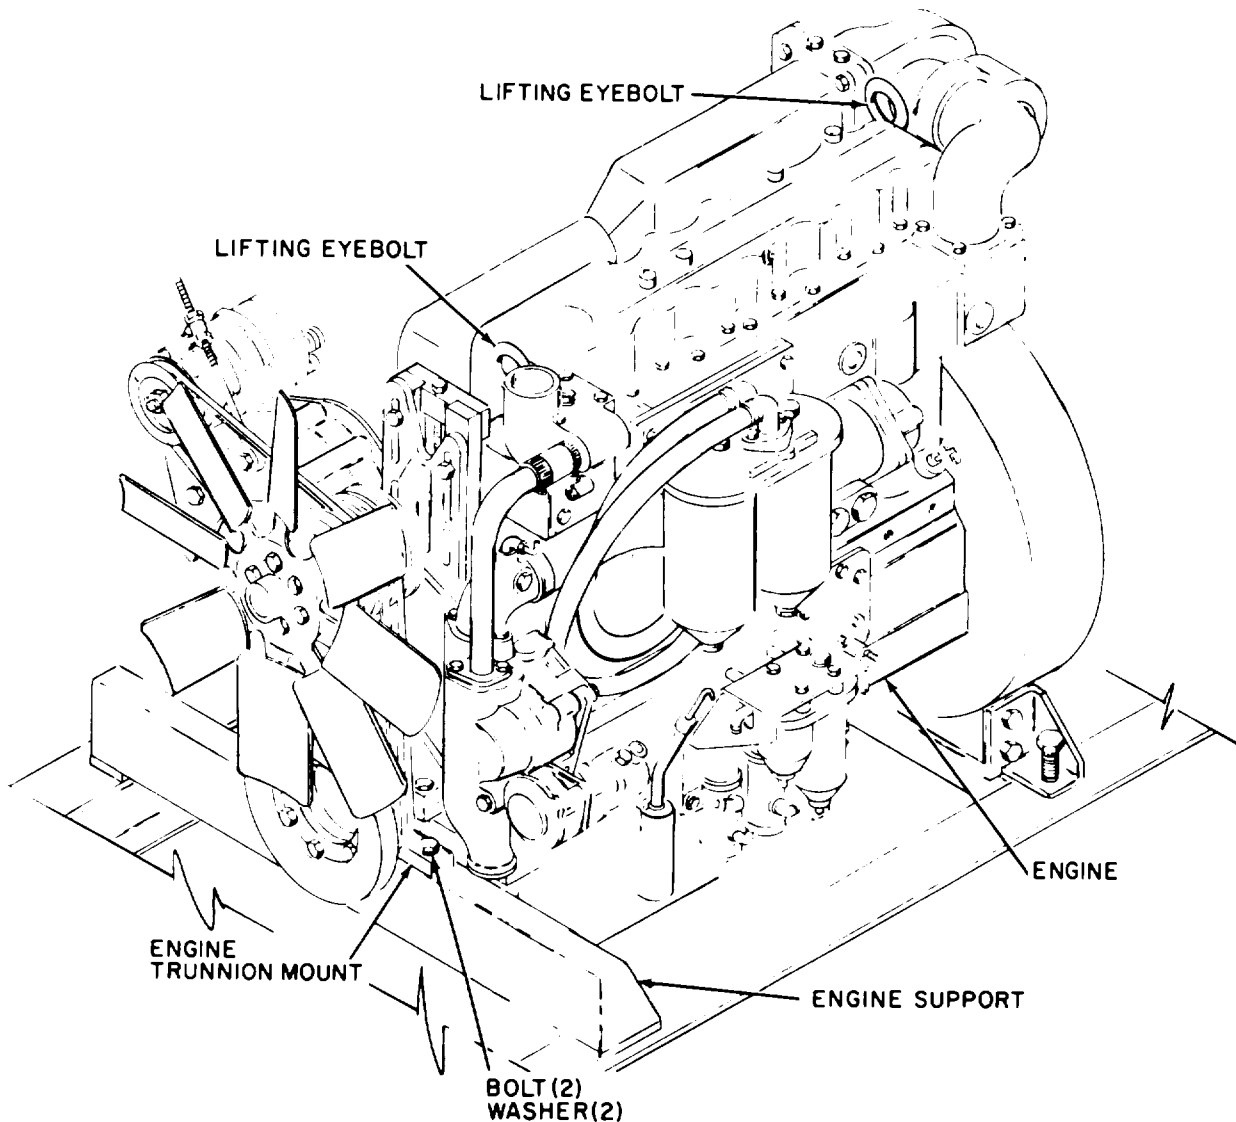

Figure 2-6. Engine, removal and installation
11. Straighten corners of locking plates (6) and remove screws (5) and locking plates. Rotate engine using a suitable barring tool on crankshaft pulley bolt. Turn engine clockwise (standing in front of engine looking toward generator) as required for access to screws (5). Hold barring tool stationary to permit loosening screws.
12. Remove nuts (7) and washers (8) and permit generator mounting bolts to rest on fuel tank.
13. Connect a suitable overhead lifting device to both engine lifting eyebolts (figure 2-6). Remove slack from lifting device.
2. Connect a suitable lifting device to both engine lifting eyebolts (figure 2-6).
7. Raise lifting device so that block can be removed from under generator. Remove block and slowly lower engine in place so that engine support bolt holes (figure 2-6) and trunion mount holes are in alignment. Secure trunion mount to engine support with bolts and washers. Make sure generator mounting bolts are in alignment with generator mount holes and tighten engine mount bolts to 200 foot-pounds torque.